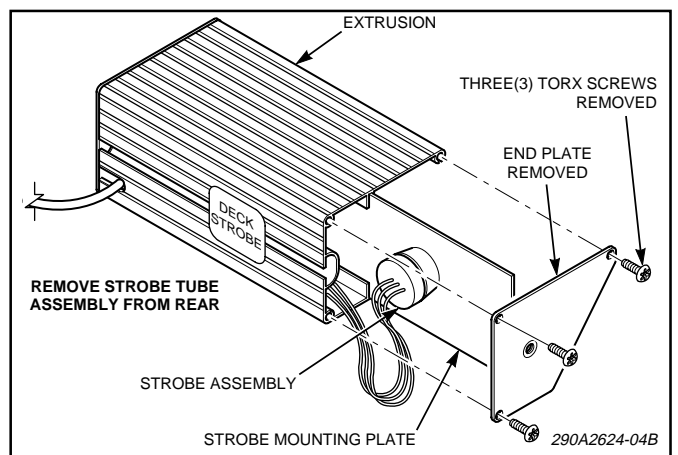

Figure 3.
c. See figure 3. Remove and retain the screws which secure the back cover to the mounting bar.